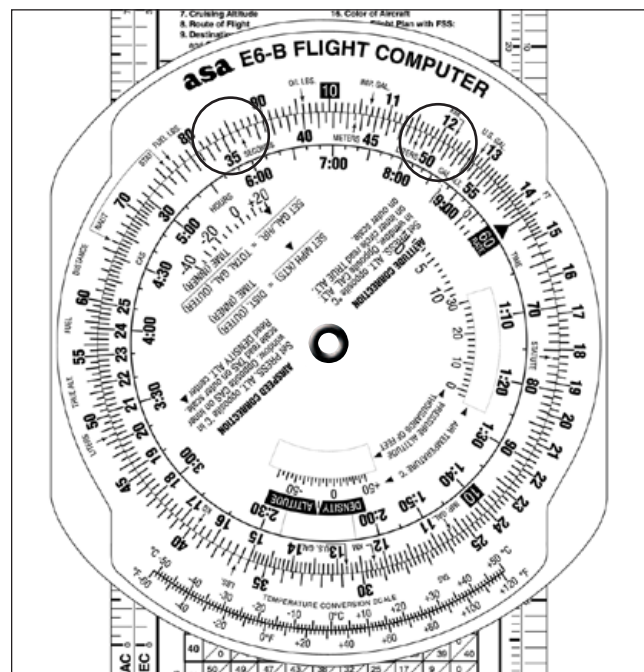

Figure 9-14. Determining time-rate-distance on the E6-B
2. Under 86 (outer scale), read 36 minutes required (inner scale). See Figure 9-14.